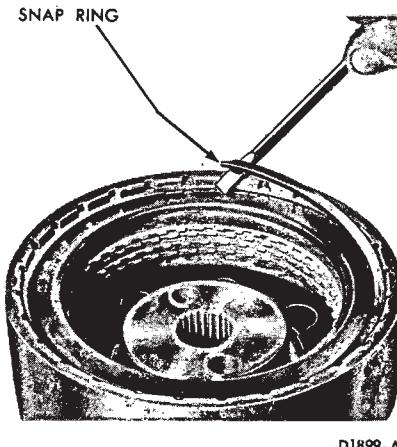

FIG. 51—Removing Forward Clutch Pressure Plate Snap Ring
1. Remove the clutch pressure plate retaining snap ring (Fig. 51).